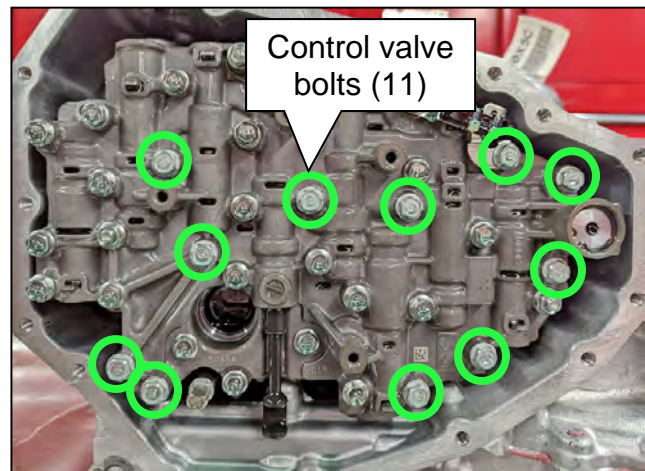

Figure 24
16. Remove ONLY the eleven (11) control valve bolts circled in green in Figure 24.